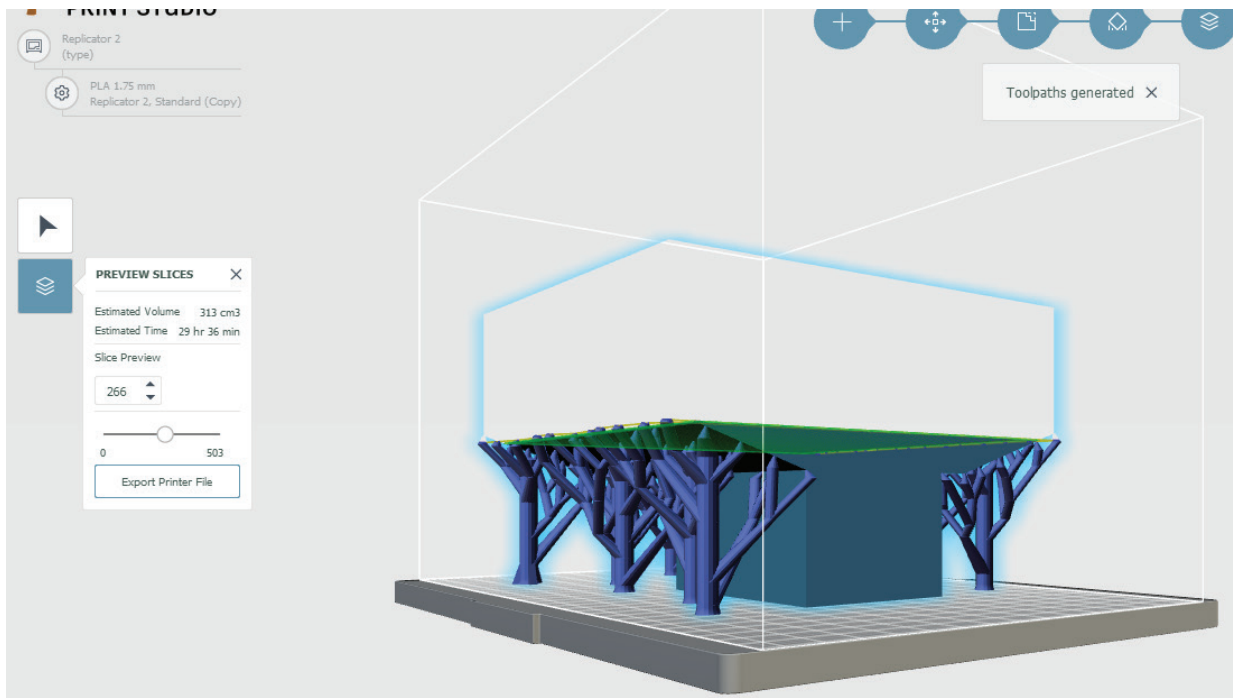

Figure-57. Preview tool
- Click on the **Preview** tool from top toolbar to check preview of 3D printed model. System will start generating toolpath and the **PREVIEW SLICES** toolbox will be displayed once toolpath generation is finished; refer to Figure-57.